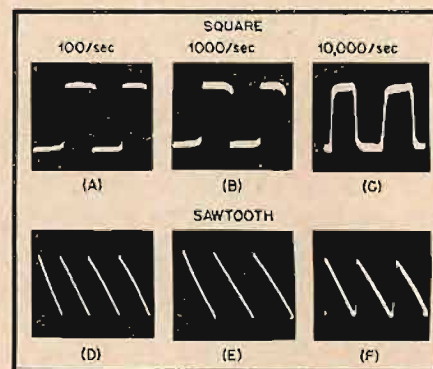

Fig. 5. Generators alone. (A) to (C), square waves; (D) to (F), sawtooth waves bottom row, taken from terminals of circuits of Figs. 3 and 9.
Quite often the controls for boost and cut are potentiometers. Exact center positions are hard to find, especially for logarithmic-taper controls. Yet the setting for flat response should be known, if only for reference. A perfect sawtooth with neither bulges nor spires is the setting for flat response, as in (D), (E) and (F) in Fig. 5. Actually, these photographs were made with the oscilloscope connected directly to the generator. A